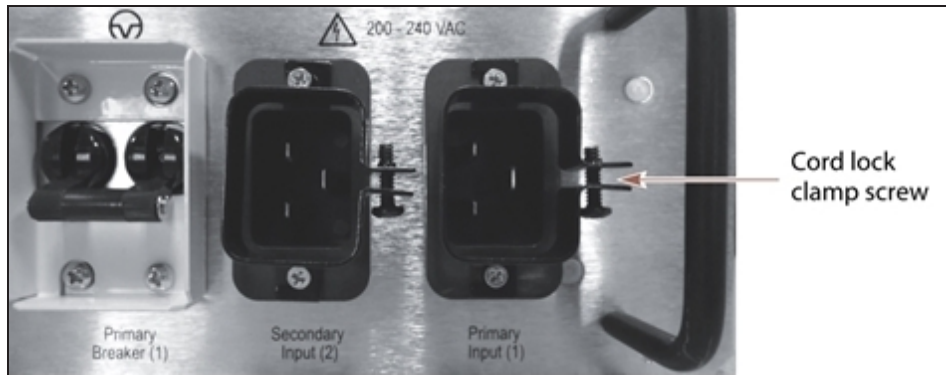

Figure 94 Install the cord locks on the power cords.
5. Place a cord lock over the connector on the end of the power cord that connects to the library. Orient the cord lock as shown in Figure 94.